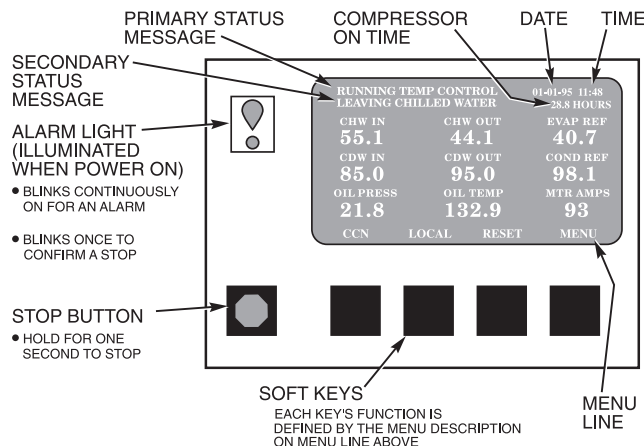

Fig. 11 — LID Default Screen
- The LID display automatically reverts to the default screen (Fig. 11) after 15 minutes if no softkey activity takes place and if the chiller is not in PUMPDOWN mode